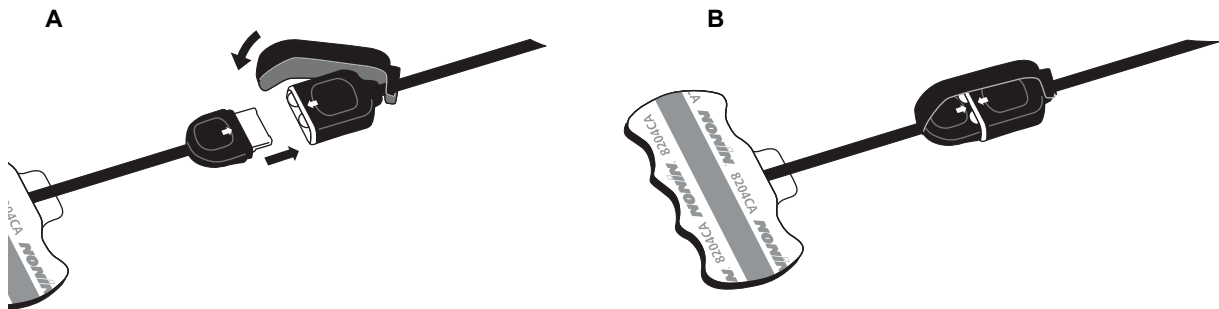

Figure 15. Connect Sensor to Intermediate Cable
- b. Align the arrows on the sensor connector and the INT-100 (figure 15-A). Insert the sensor connector into the INT-100 port.
- c. Slide the sensor lock to the port. Secure the sensor lock so it covers the sides of the port and the sensor connector. The sensor cable fits into the notch on the sensor lock (figure 15-B).